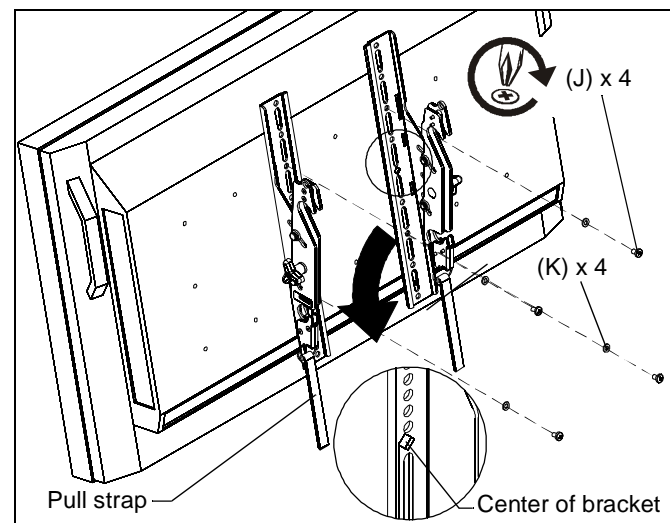

Figure 7
2. Attach brackets to back of screen using four M6 x 12mm Phillips head screws (J) and four M6 flat washers (K) for each screen. (See Figure 7)